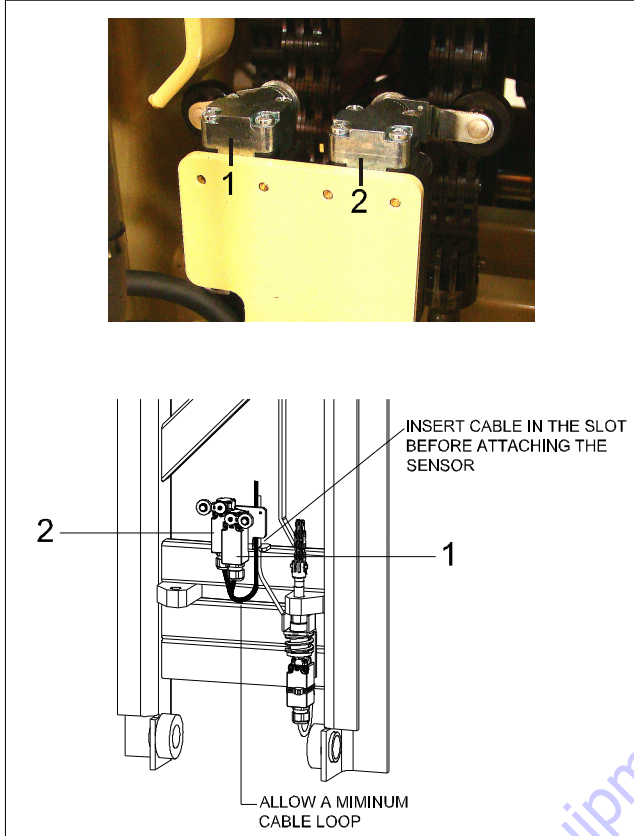

Figure 8-8. Mast Elevation Limit Switches
1. Power the machine on at ground control station and slightly raise the mast to actuate the main mast limit switch (Refer to Figure 8-8).
2. Place a spirit level (digital display) longitudinally (1) on the chassis (front - rear direction).
3. Using a jack (3) of appropriate capacity, slowly and carefully lift the front of the chassis: the LED under the tilt sensor body should switch off when the chassis angle reaches 2 degrees. The warning alarm should be triggered approx. 1 second later.
4. Place a spirit level (digital display) transversely (2) on the chassis (left - right direction).
5. Using a jack (3) of appropriate capacity, slowly and carefully lift the side of the chassis: the LED under the tilt sensor body should switch off when the chassis angle reaches 2 degrees. The warning alarm should be triggered approx. 1 second later.